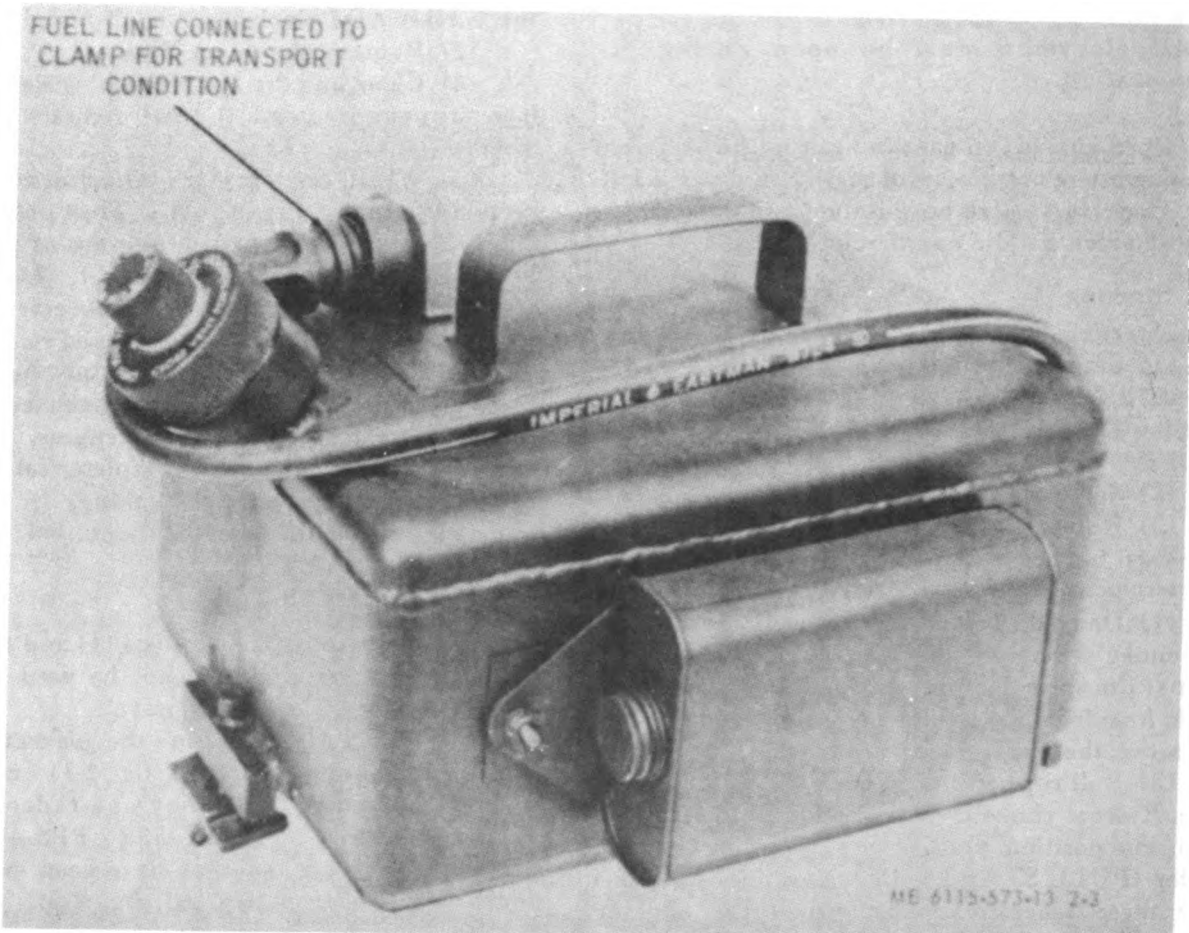

Figure 2-3. Gasoline fuel can with fuel line.
b. Long Periods. Follow steps (1) through (5) below when the generator set will not be used for long periods of time (over 1 hour).
(1) Remove load (para a above).
(2) Tightly close the fuel shutoff valve in the fuel line on gas can.
(3) Disconnect the fuel line from the fuel connector on the control panel and allow the engine to run until the carburetor runs dry. Inspect the fuel line to make certain the automatic shutoff valve is operating and that the fuel line is not leaking. Then, connect the fuel line to the transport clamp on the gas can (fig. 2-3).
(4) Close the vent on the gasoline can by turning vent screw clockwise.
(5) Close all external air vents in the case.